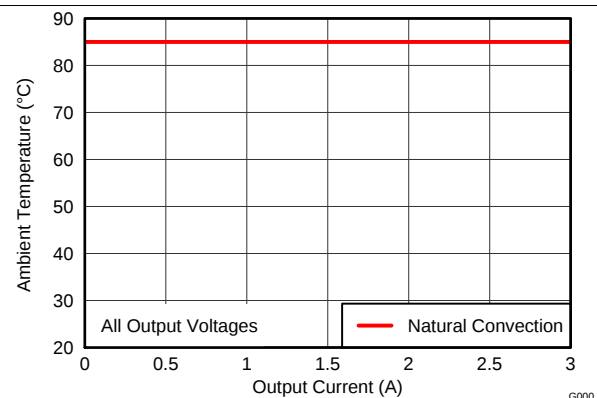

Figure 14. Safe Operating Area
- (2) The temperature derating curves represent the conditions at which internal components are at or below the manufacturer's maximum operating temperatures. Derating limits apply to devices soldered directly to a 100 mm $\times$ 100 mm double-sided PCB with 1 oz. copper. Applies to Figure 14.